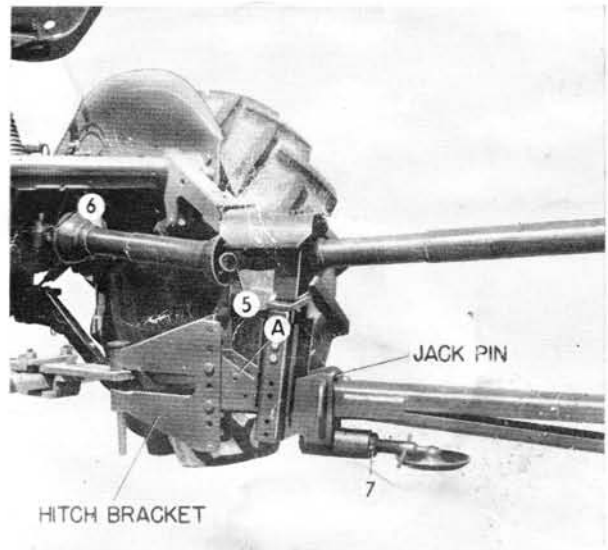

FIGURE 3
5. Figure 3—Center Universal Joint
6. Figure 3—Front Universal Joint
7. Figure 3—Jack
The hitch bracket, see Figure 3, is adjustable and should be adjusted so that the bale chamber is as-nearly level as possible when tractor and baler are both on a level surface. The hitch bracket can be raised or lowered to accommodate various tractor drawbar heights.
Assembling instructions are included with the jack kit. Figure 3 shows the jack in the proper raised or baling position. To place the jack in standing position, remove jack pin, rotate jack into vertical position and install jack pin at point A, Figure 3.